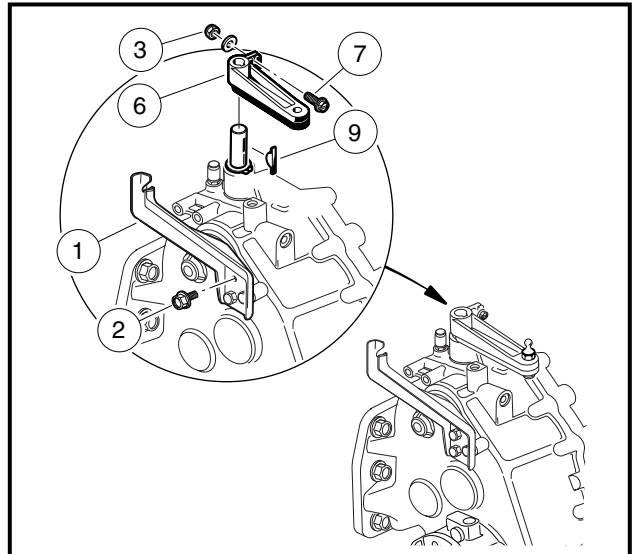

Figure 16-36 Forward/Reverse Shifter Bracket
- 5.9. Remove screws (2) securing the Forward/Reverse shifter cable bracket (1) to transaxle and remove the shifter bracket (**Figure 16-36, Page 16-15**).
- 27.1. Install the three screws (2) securing the Forward/Reverse shifter cable bracket (1) to transaxle and tighten to 135 in-lb (15.3 N·m) (**Figure 16-36, Page 16-15**).